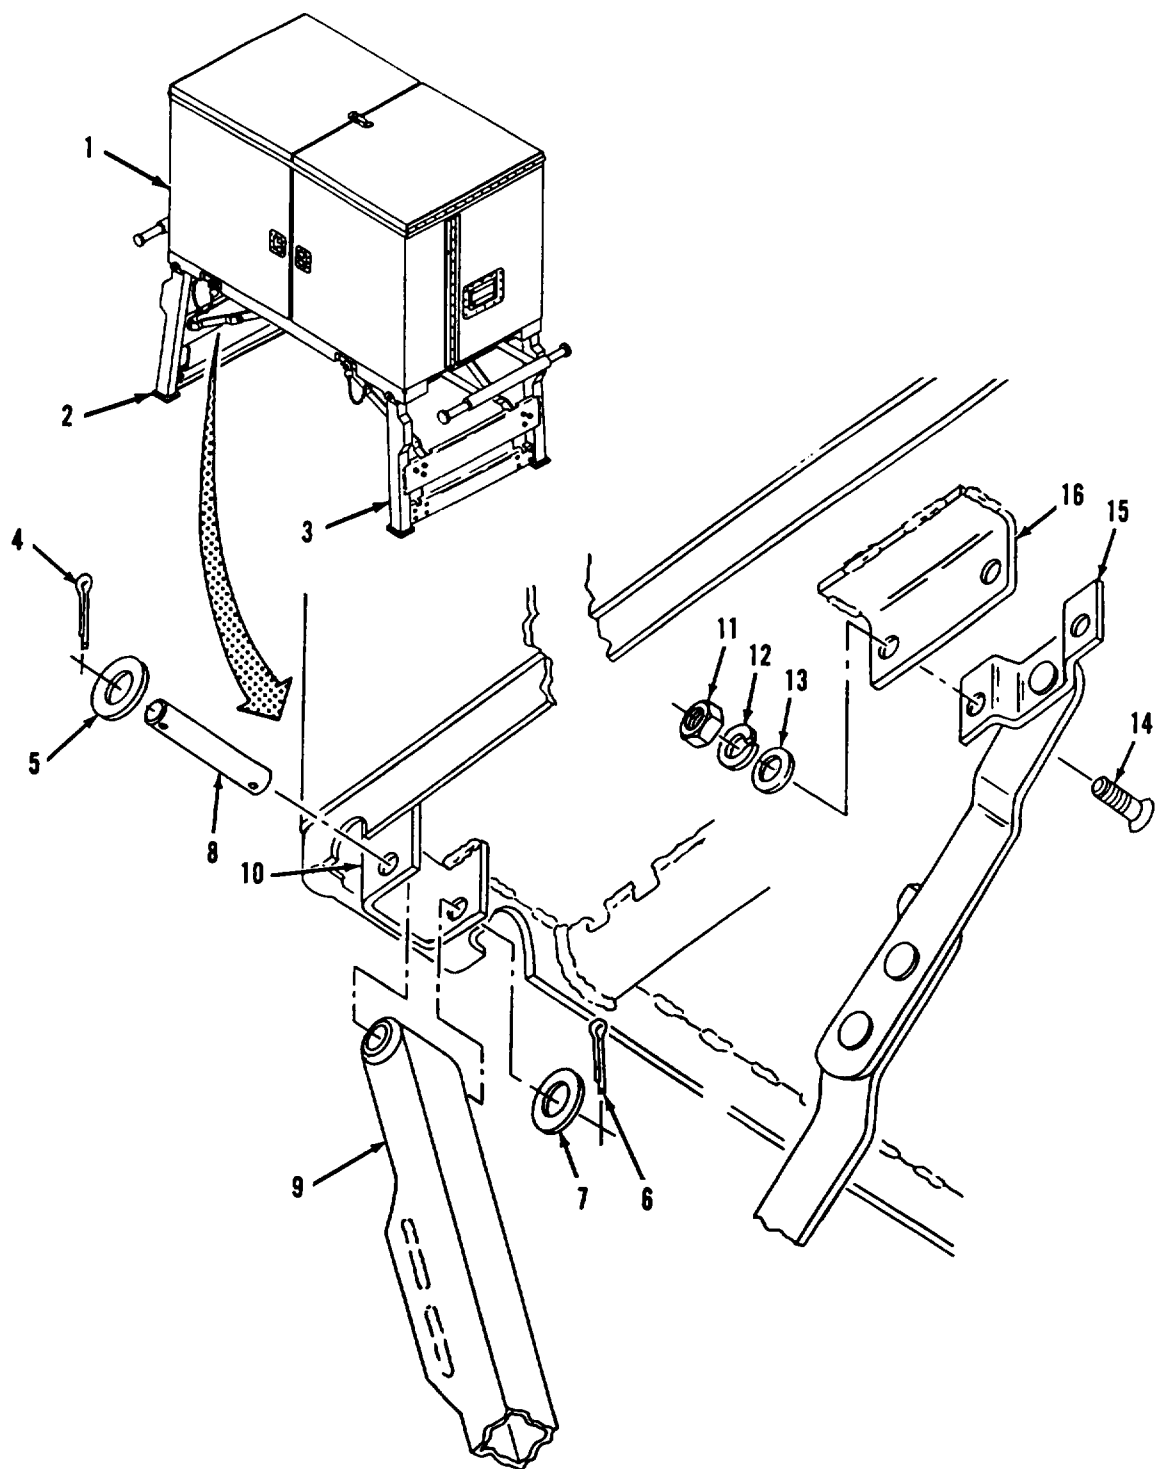

Figure 4-9. Leg Support Installation.
- g. Installation. Refer to figure 4-9.